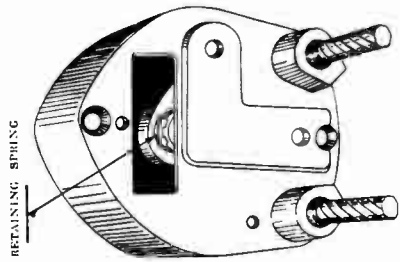

FIGURE 2
3. Reach in through the oblong opening in the back of the control unit with a medium size screw driver and press down on the brass retaining lock spring, at the same time working the lock cylinder forward. (See Fig. 2).